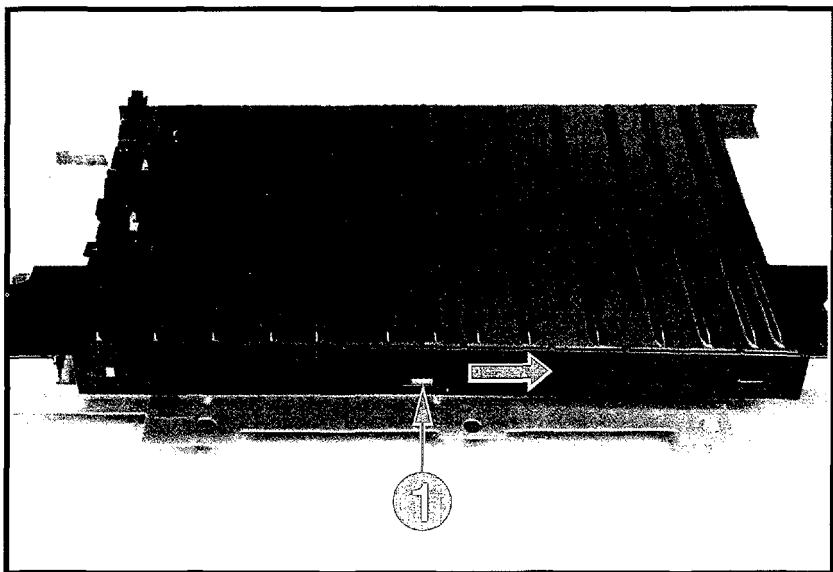

Figure 6-46 Removing the Static Eliminator Strip
2. Turn the Feeder Guide Assembly over, and slide the Static Eliminator Strip to the right while pushing the center tab out to release (Figure 6-46, callout 1).